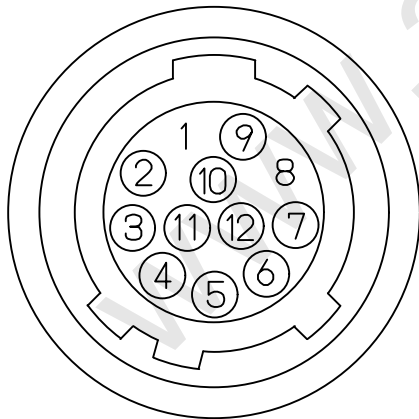

**Figure 1**
## 2. DIP Switch Settings (Refer to Dip Switch in Figure 1)
3. External Sync. (HD/VD) signal impedance setting (See **External Sync.** in **Figure 1**)
4. Gain Mode Setting (See **Gain Mode Switch** in **Fig. 1**)
The gain can be adjustable by the manual gain pot (See **Manual Gain Pot** in **Fig. 1**).